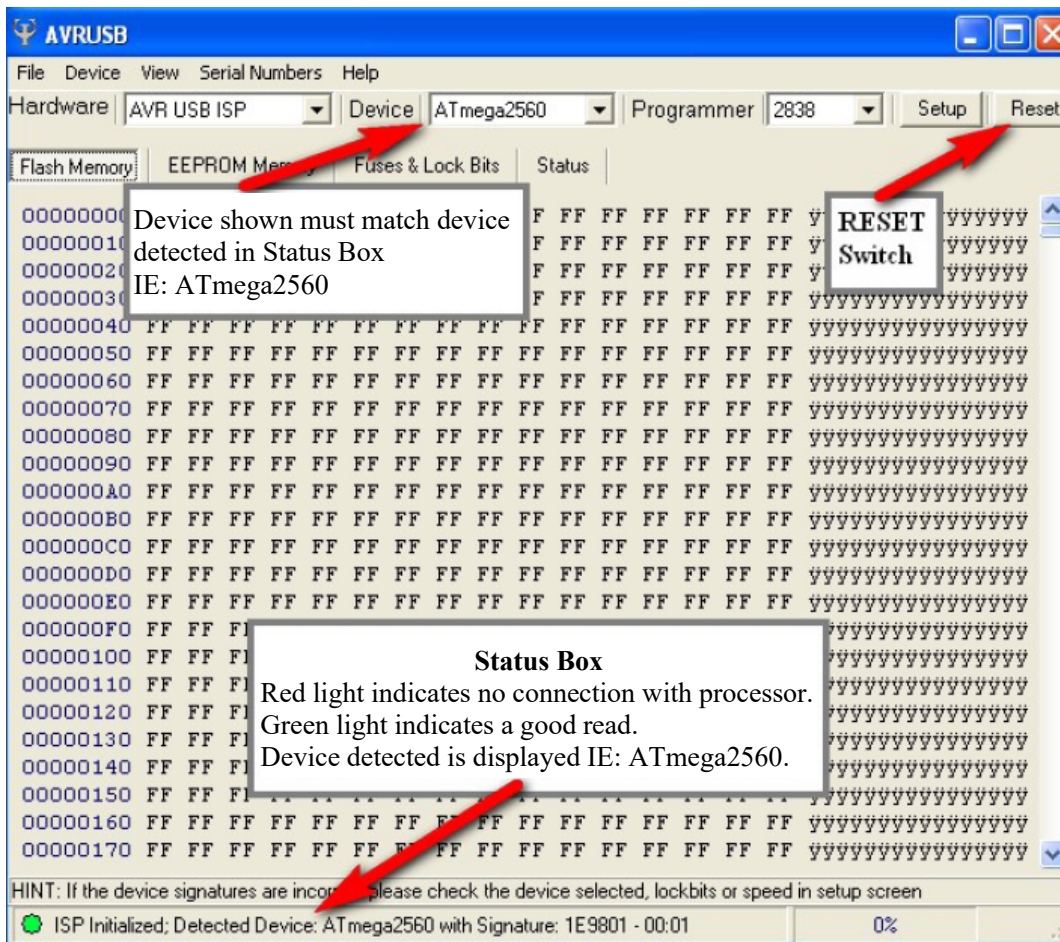

Figure 7
6. Click on the *Reset* button in the AVR program. A message will be displayed at the bottom left of the AVR screen in the Status Box indicating the condition of the connection. See Figure 7.
7. The detected device shown in the Status Box must match the Device window at the top of the screen. See Figure 7. If they do not match use the drop-down list of the Device window to select the correct device.